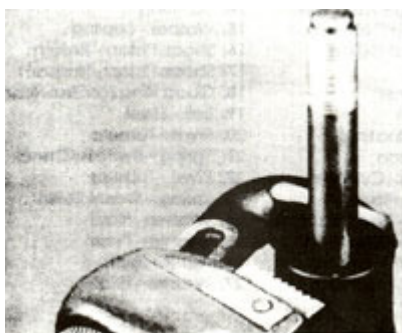

Figure 2. Removing End Cap
3. Rotate cylinder end cap carefully, counterclockwise with a pipe wrench to remove. (Figure 2)